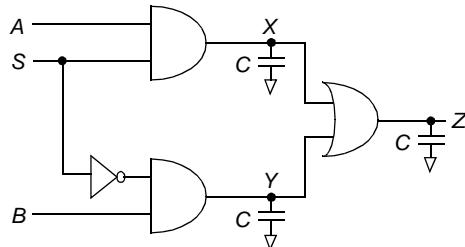

Figure 6.18 Two-input multiplexer
- 27.** [C, None, 4.4] Figure 6.18 shows a two-input multiplexer. For this problem, assume independent, identically-distributed uniform white noise inputs.
- b. Find the exact signal (P_1) and transition ($P_{0 \rightarrow 1}$) formulas for nodes X, Y, and Z for: (1) a static, fully complementary CMOS implementation, and (2) a dynamic CMOS implementation.
28. [M, None, 4.4] Compute the switching power consumed by the multiplexer of Figure 6.18, assuming that all significant capacitances have been lumped into the three capacitors shown in the figure, where $C = 0.3 \text{ pF}$. Assume that $V_{DD} = 2.5 \text{ V}$ and independent, identically-distributed uniform white noise inputs, with events occurring at a frequency of 100 MHz. Perform this calculation for the following: